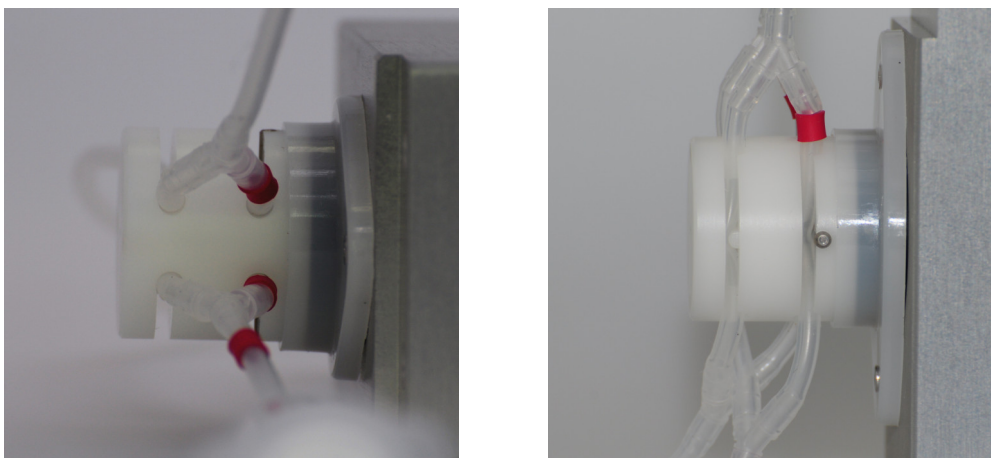

Figure 24 – Top view (left) and side view (right) of properly mounted tubing in the pinch valve.
6. Check the correct position of the tubing in the openings of the pinch valve (Figure 24).
If the liquid is moving in one or both of the positions, check the insertion of the tubing in the pinch valve. Stretch the tubing and move it up and down for proper placement in the valve’s slot (Figure 25). Also check the correct allocation of the tubing (Figure 24). If this action does not correct the problem, contact ibidi or your local distributor.